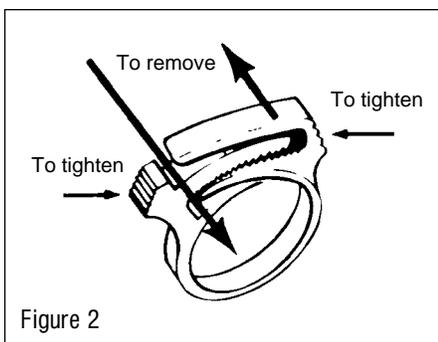

Figure 2
1. In an uncontaminated atmosphere, remove the existing breathing tube from the respirator by first disconnecting the air supply hose and then removing the nylon clamp (Figure 2). Do not remove the foam from inside the breathing tube. The foam helps reduce the noise level and turbulence.